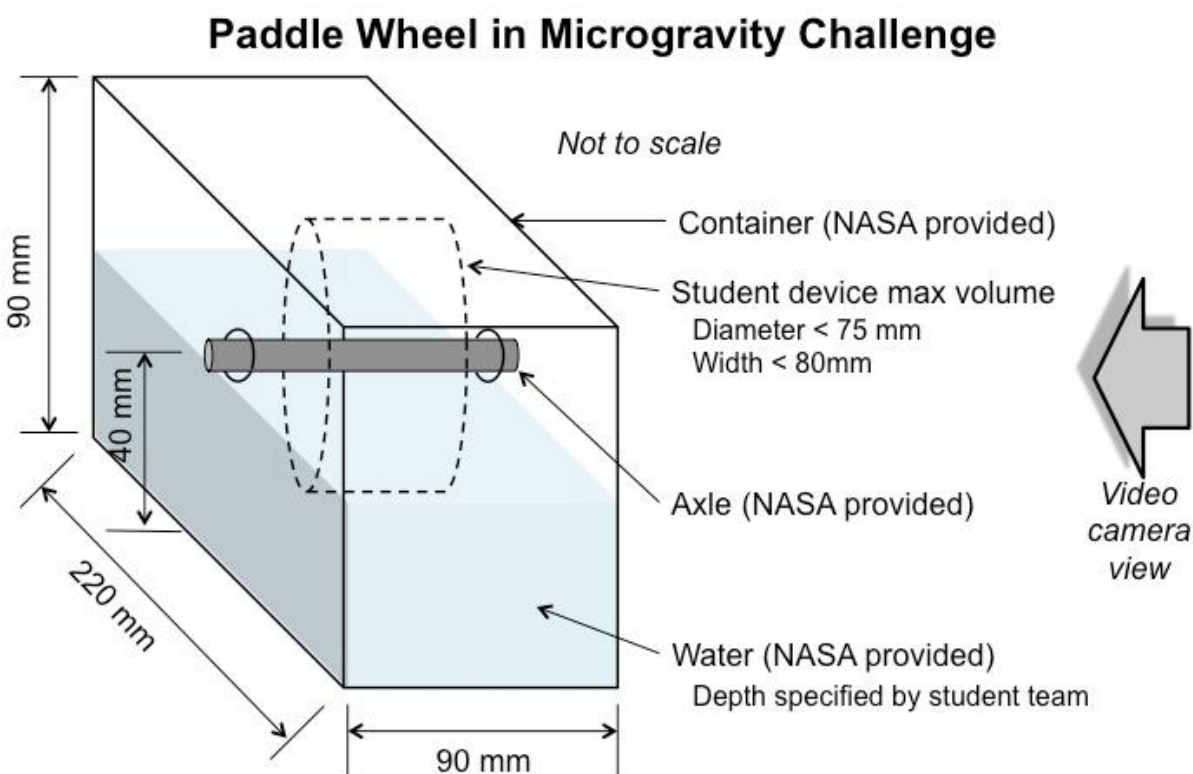

Figure 1. Sketch of a paddle wheel vessel (with axle) showing the maximum dimensions for the paddle wheel.
- b. Each paddle wheel must fit within an imaginary cylinder that is 75 mm in diameter and 80 mm wide, where the NASA-provided axle passes through the cylinder's axis as seen in Figure 1 on page 9.
Containers: Each paddle wheel will be tested in its own container of water, where the interior is a rectangular prism which nominally has the internal dimensions shown on Figure 1. Two containers, and thus up to two paddle wheels, will be tested in a single drop test. Each drop test will only include paddle wheel(s) from a single team.
Size: Each paddle wheel must have a hole that can accommodate a LEGO® Technic axle that is 4.8 mm in diameter. Each paddle wheel must fit within an imaginary cylinder that 80 mm wide and 75 mm in diameter as shown in Figure 1.
Numbering: All images should be numbered, e.g., Figure 1, and have captions. Tables should similarly be numbered and have a title.